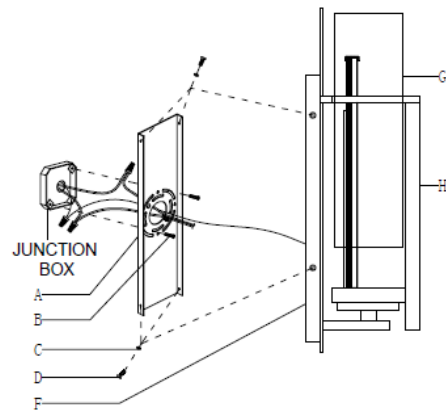

FIG.2
## CONNECTION THE WIRES (Fig. 2)
4. Connect the electrical wires as shown in (Fig.2), making sure that all wire connectors are secured. If your junction box has a ground wire (green or bare copper), connect the fixture's ground wire to it. Otherwise, connect the fixture's ground wire directly to the mounting plate (A) using the green screw provided. After wires are connected, tuck them carefully into the junction box.